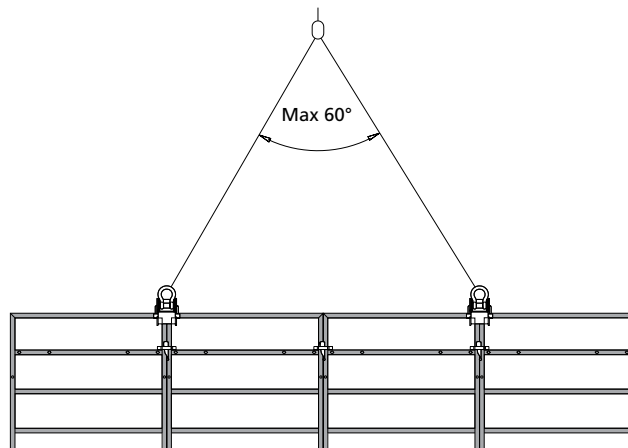

Fig. 18.4
- When moving horizontal panels, the crane hooks must always be attached at the cross stiffeners (Fig. 18.4).